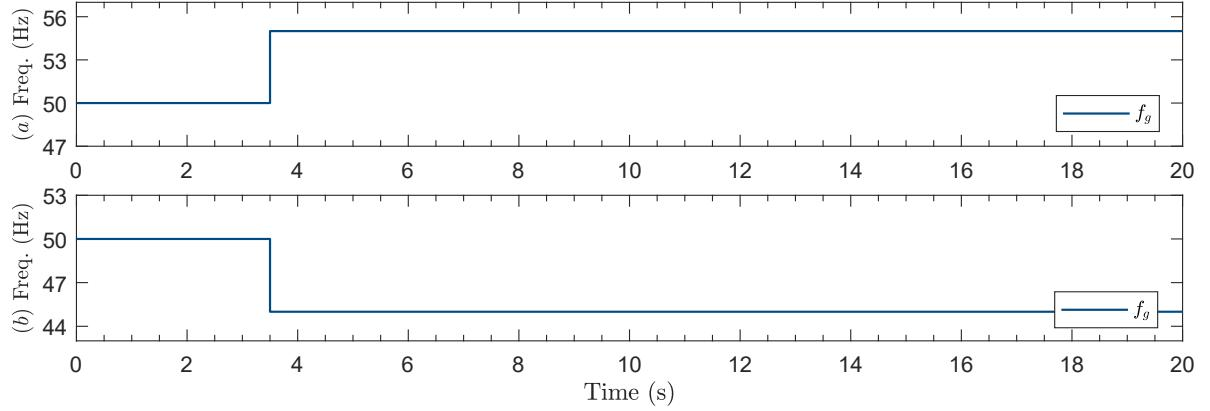

Fig. 9: Step changes of +5 Hz and -5 Hz in the frequency of the grid voltage.
- (c) **Test 4:** $\Delta f_g = +5$ Hz (from 50 Hz to 55 Hz). -See Fig. 9 (a).
- (d) **Test 5:** $\Delta f_g = -5$ Hz (from 50 Hz to 45 Hz). -See Fig. 9 (b).